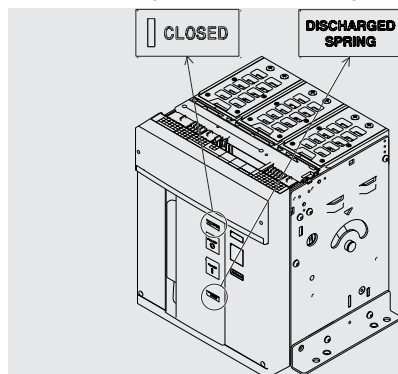

Figure 78
5. Check that the circuit-breaker is closed (open/closed indicator "I - CLOSED"), and check that the springs are discharged (spring signalling device "white - DISCHARGED SPRING") as indicated in Figure 78.